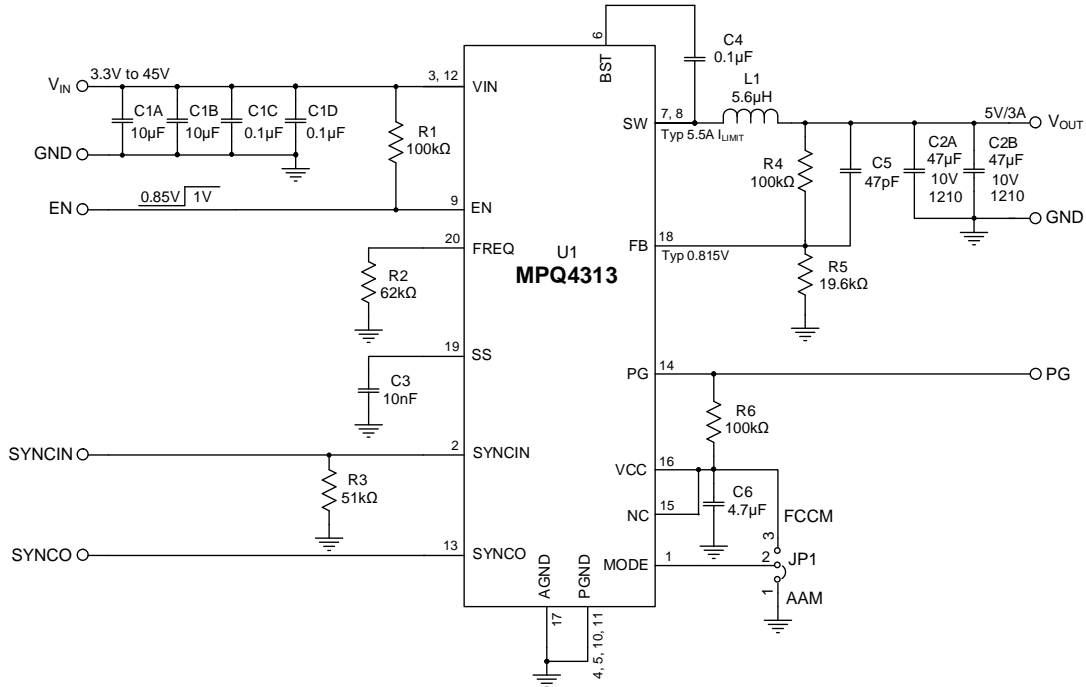

Figure 12: Typical Application Circuit (V_{OUT} = 5V, f_{sw} = 470kHz)
10) The recommended PCB layout is based on Figure 12.